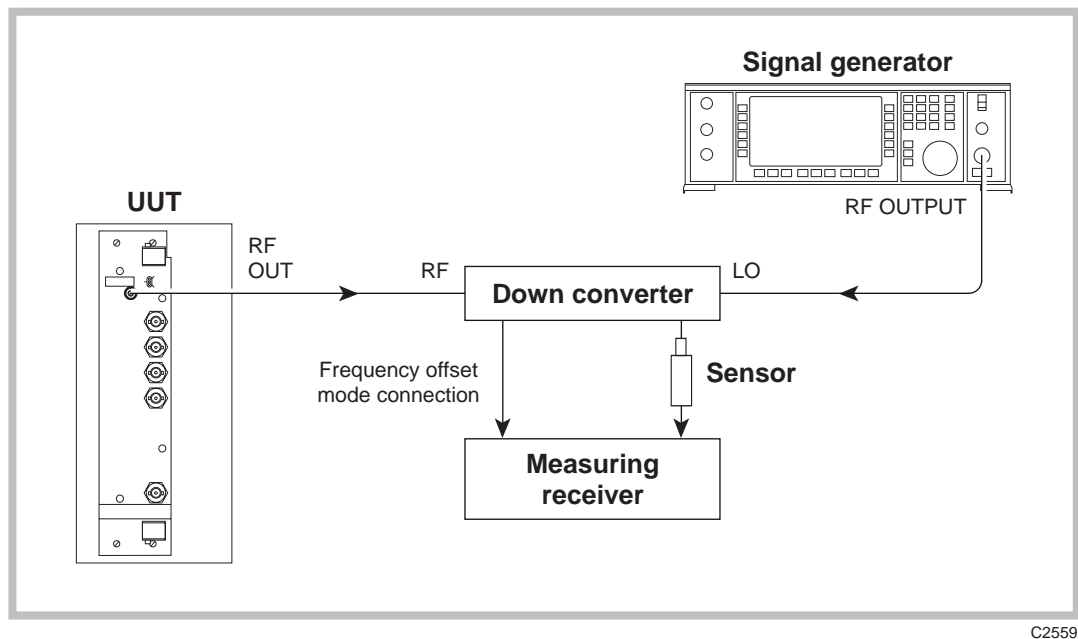

Fig. 5-2 RF output test set-up
- (1) Connect the test equipment as shown in Fig. 5-2.
- (2) On the UUT set: